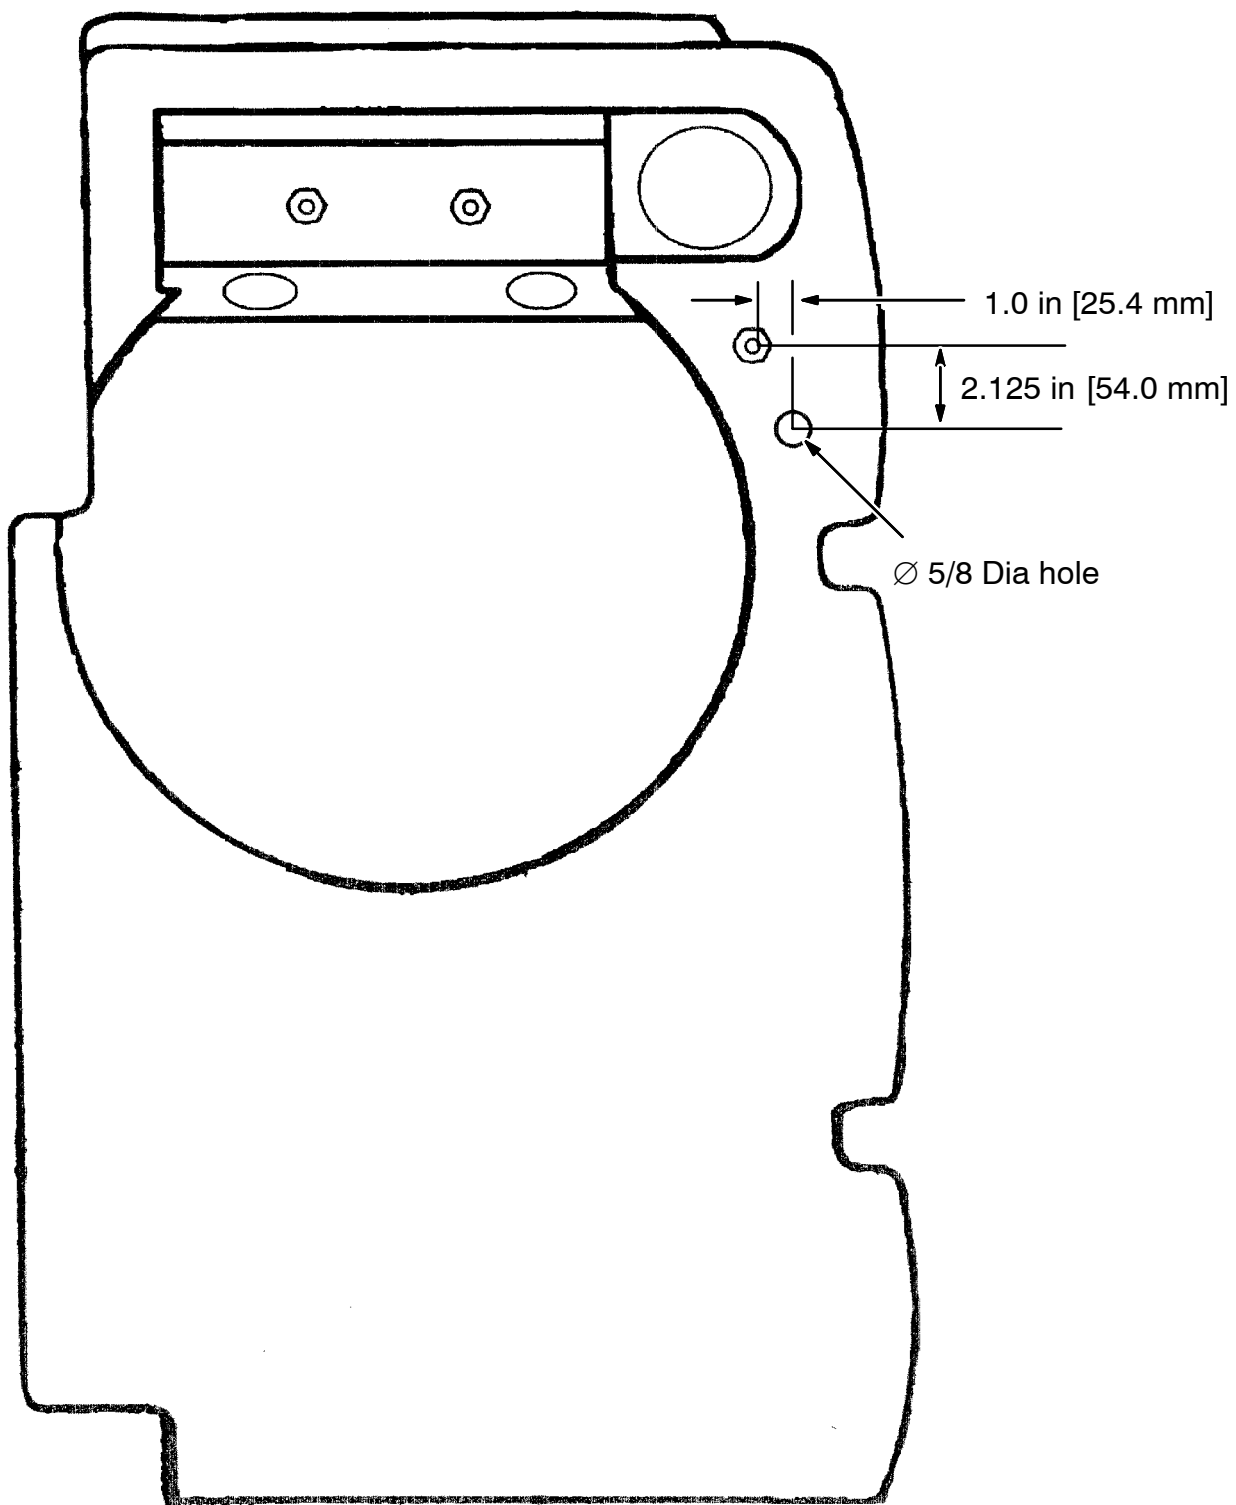

FIG. 1 - New Hole Locations
(Refer to FIG. 1 thru 5)
5. Mark the new level sensor mounting hole location on the recovery tank according to the illustration in FIG. 1. (Refer to FIG. 1)
6. Drill the hole out with a 5/8 in hole saw. (Refer to FIG. 1)